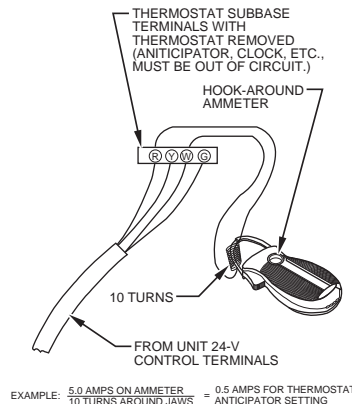

Fig. 47 – Amp. Draw Check with Ammeter
- (2.) Connect an amp. meter as shown in Fig. 47 across the R and W subbase terminals or R and W wires at wall.